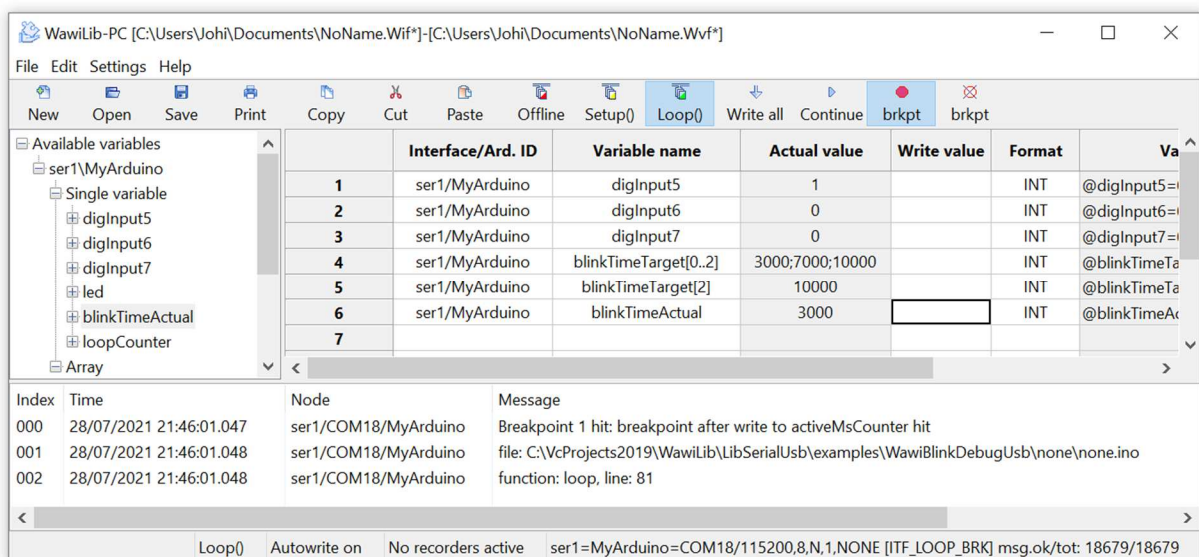

Fig. 3.15. Breakpoint hit at source code line 81.
- ✓ Look at the WawiLib status bar in fig 3.15. status of code execution is ITF\_LOOP\_BRK (breakpoint hit)